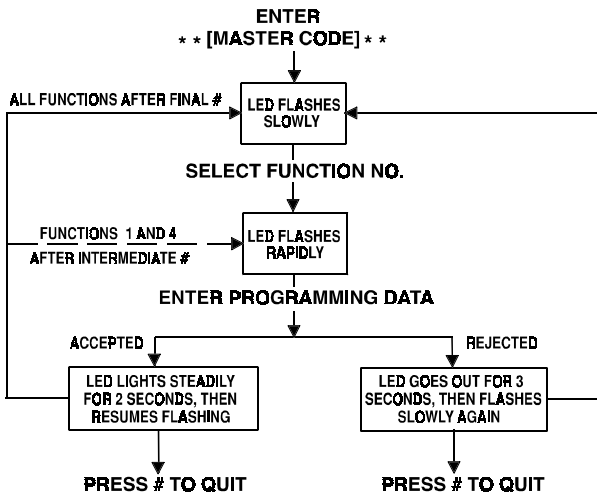

Figure 5. Programming Flow Chart
5.2 Programming Tips (Figure 5)